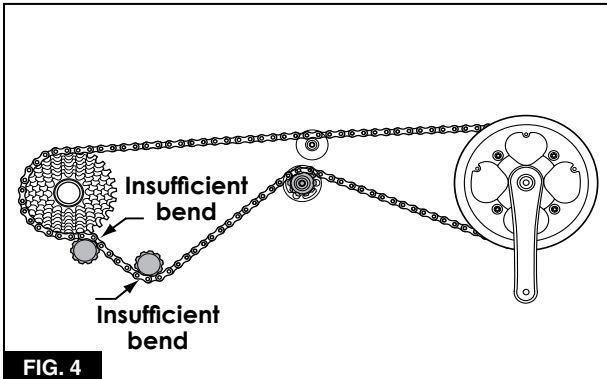

FIG. 4
a. The chain should bend twice as passes through the derailleur. The chain is too short if it does not. See **Figure 4**.